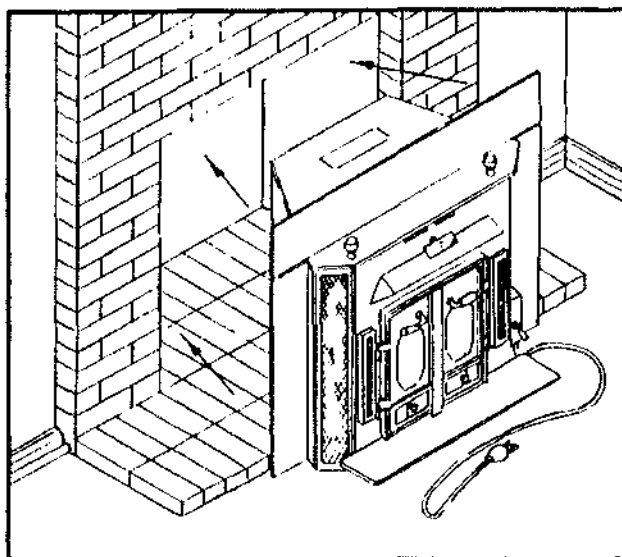

FIGURE 7
8. Slide the **BUCK STOVE** back into the fireplace. Check to be sure that the trim panels are properly positioned and lie flat against the front of the fireplace. If one or more of the panels is out of position, slide the stove out and reset by loosening the mounting screws and repositioning in the slot. (See Figure 7)